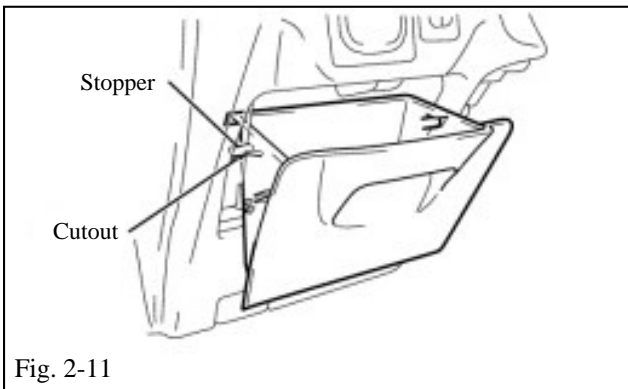

Fig. 2-11
- (3) Remove the stopper of the instrument panel box from the cutout of the instrument panel lower and remove the instrument panel box (Fig. 2-11).